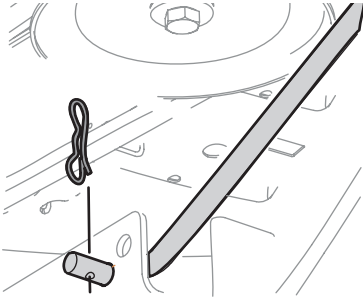

Figure 42
14. Pull the bow-tie pin out of the front deck lift rod securing it to the deck (Figure 42). Slide the deck lift rod out of the front hanger bracket.